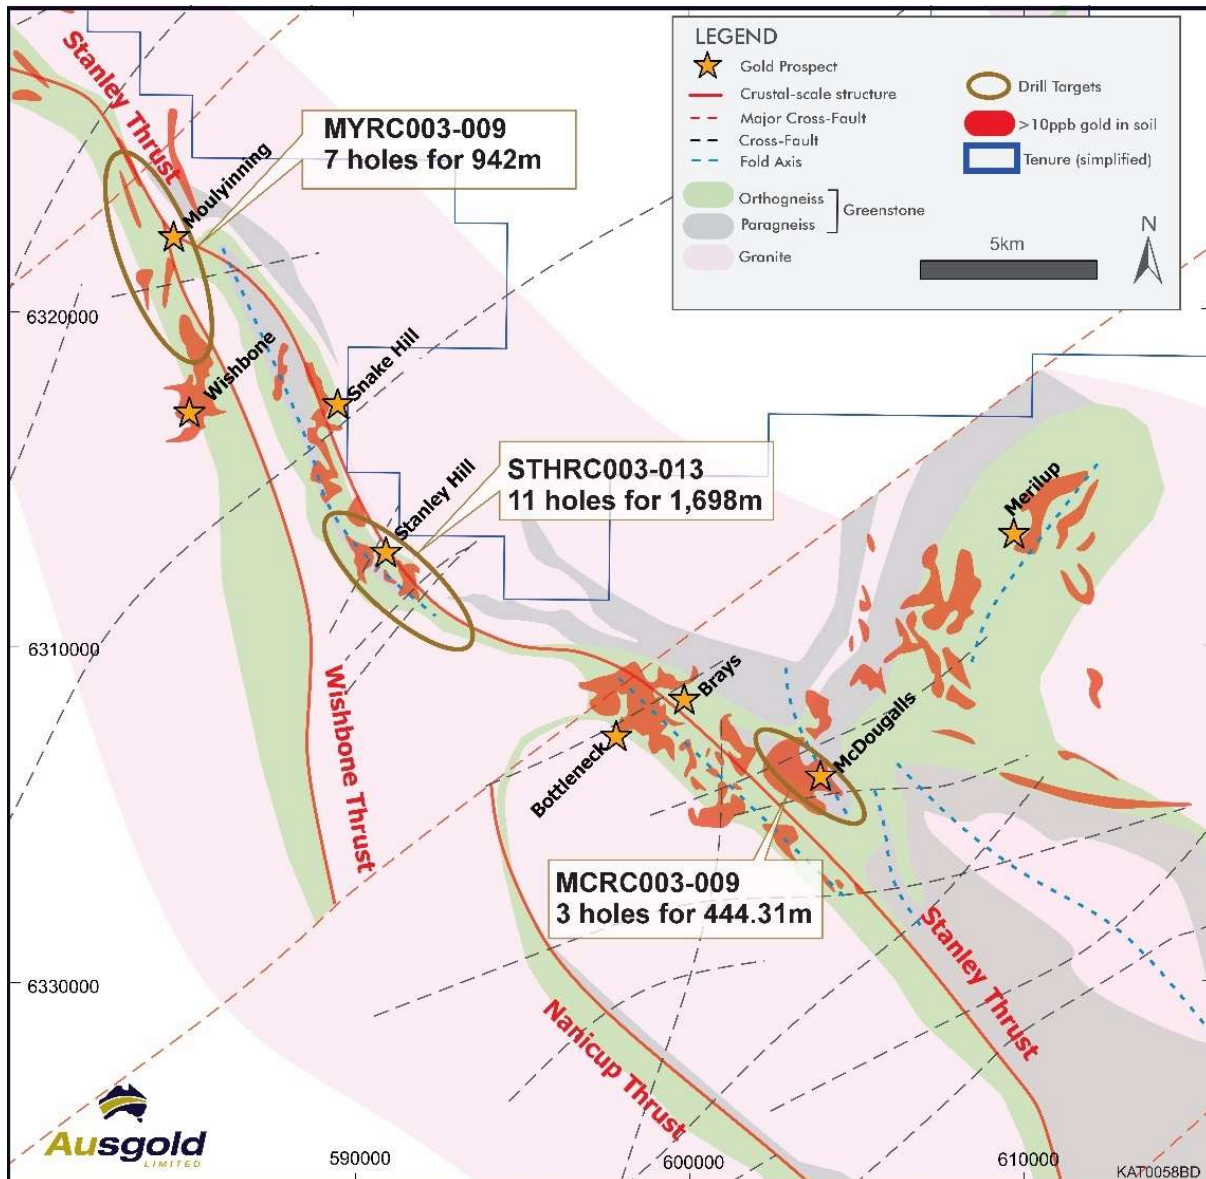

Figure 6 – Detailed geological map of the Stanley Gold Project with drill locations highlighted
The SGP has historically been explored through wide-spaced RAB and AC drilling conducted by previous companies, which has assisted in mapping the local stratigraphy. However, the presence of shallow saprolitic clays (<30m depth) and the limited lateral dispersion of supergene gold mineralisation have rendered these drill methods largely ineffective. RC and diamond drilling (DD) targeting fresh rock horizons remains limited across the SGP (Figure 6).
During the current campaign, Ausgold drilled 21 RC holes for 3,000m across three prospects – Stanley Hill, Moulyinning and McDougalls (Figure 6). One diamond tail was drilled for 84.31m (assays pending). Drilling was co-funded by the GSWA Exploration Incentive Scheme (Round 30).